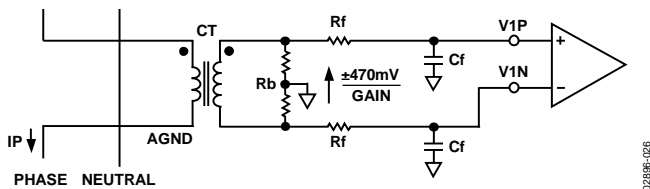

Figure 26. Typical Connection for Channel 1
Figure 26 shows a typical connection diagram for Channel 1. A current transformer (CT) is the current transducer selected for this example. Note that the common-mode voltage for Channel 1 is AGND and is derived by center-tapping the burden resistor to AGND. This provides the complementary analog input signals for V1P and V1N. The CT turns ratio and burden resistor R_b are selected to give a peak differential voltage of ± 470 mV/gain at maximum load.